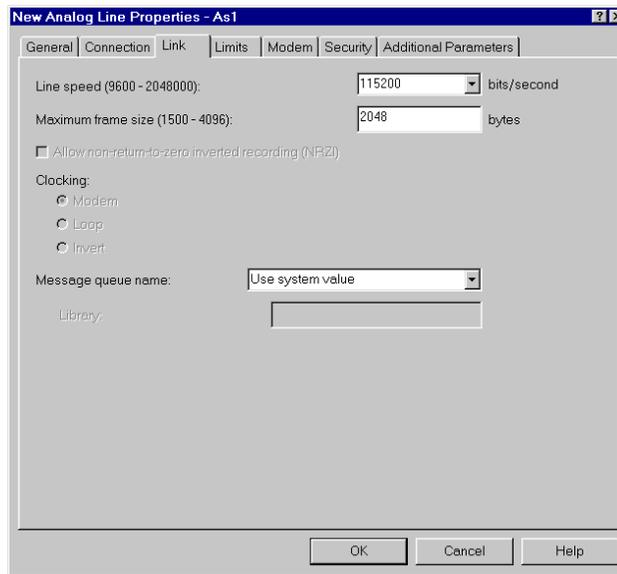

Figure 119. Setting Link properties for line C4S3
5. Click the **Link** tab (Figure 119).